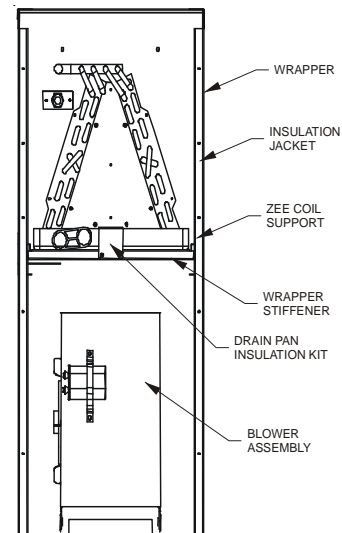

Figure 5
To complete the conversion, slide the evaporator coil into the chassis and attach the three (3) access panels. (**Figure 5**).